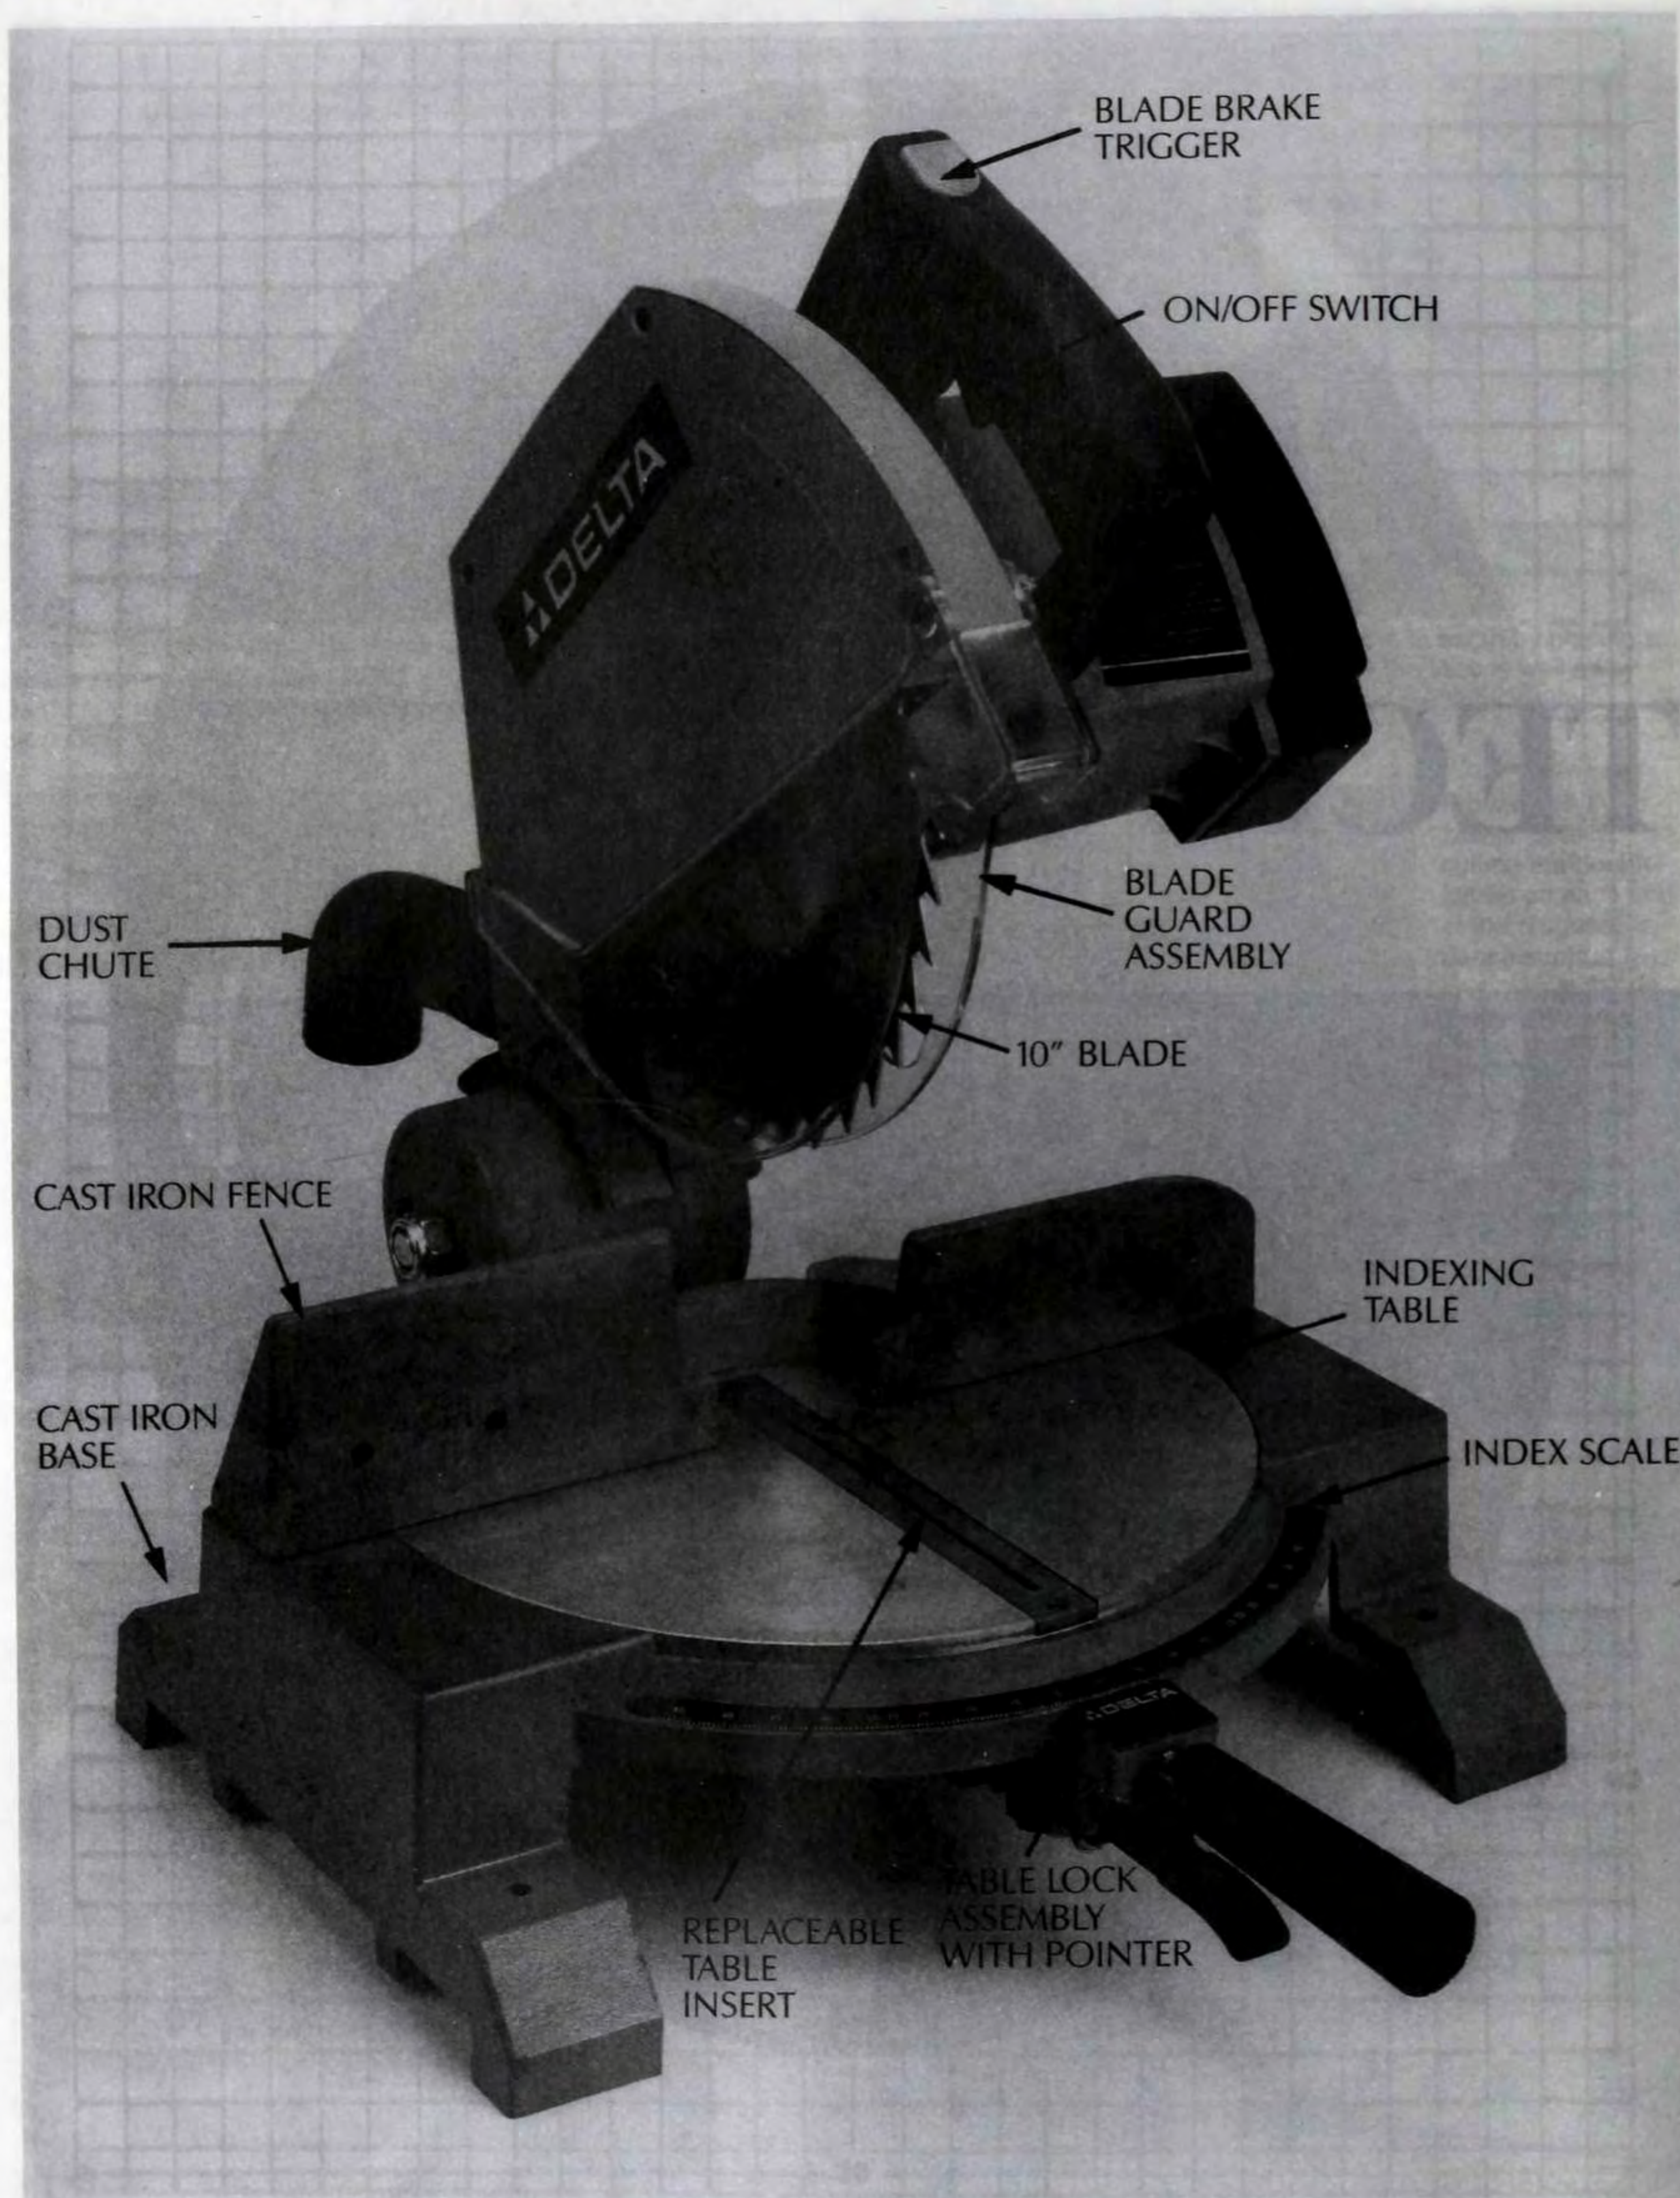

Figure 1. The primary parts of a typical motorized miter box.
Figure 1. Cut the rail miters (A) on your table saw. Make sure you clamp the workpiece down firmly to prevent kickback. Make a test cut and check for a perfect 45 degree miter. Here, the blade guard is removed for clarity.
Most motorized miter boxes are designed with a heavy-duty motor that pivots downward, plunge-cutting into a pre-slotted index table as shown in Fig. 1. The index table usually